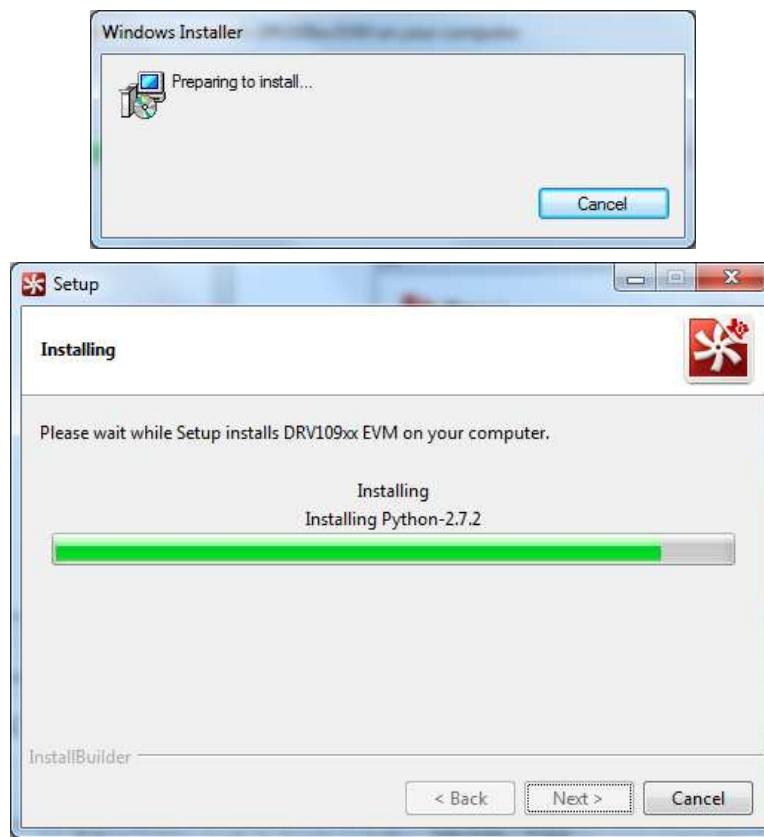

Figure 21. GUI Installation in Progress
6. The installer begins self-extraction and proceeds with the installation as shown in Figure 21.